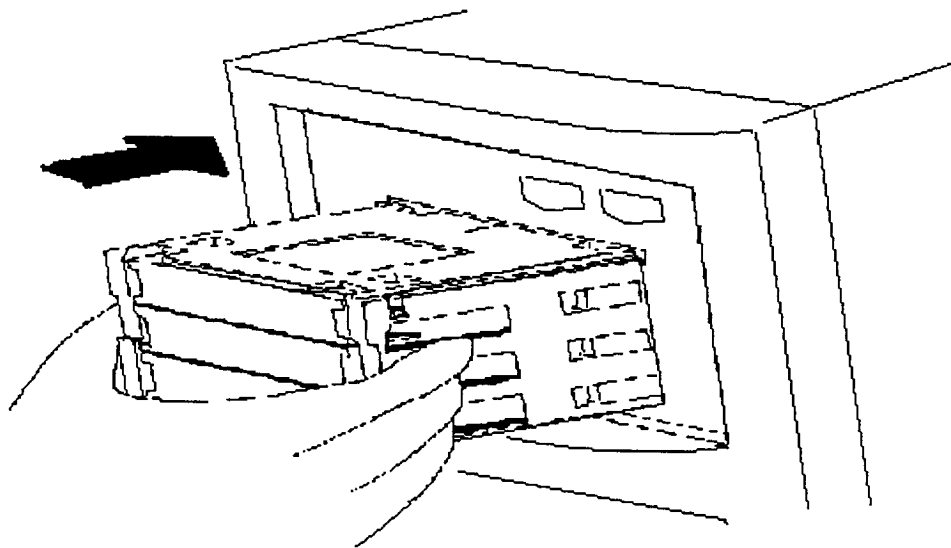

Figure 4-2
- (2) When you insert MAGAZINE-1, that it is possible to do the wait which bumps against the direction of the arrow from the FRONT DOOR. At this time, If LED of "MGZ1" lights up, MAGAZINE-1 is automatically dragged into the inside of the unit from the position.(see figure 4-2)
- (3) When MAGAZINE-1 is inserted in the unit, the unit executes the confirmation operation the place where in TAPE CARTRIDGE is inserted in.(Read Element Check)
- (4) The operation of MAGAZINE-1 becomes able to be inserted the following MAGAZINE -2 for the first time after ending.
- (5) Insert MAGAZINE-2 in the same way.